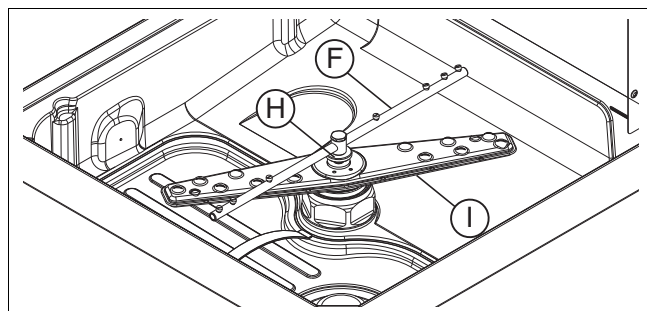

Figure 32 Wash and rinse arms
- Remove the upper and lower wash arms "F" and rinse arms "I", undoing the ring nut "H" (Figure 32).